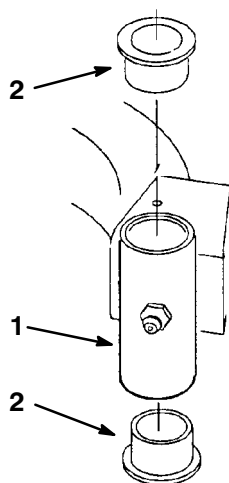

Figure 27
4. Insert a pin punch into the mounting tube and carefully drive out the bushings (Fig. 27). Clean the inside of the mounting tube.